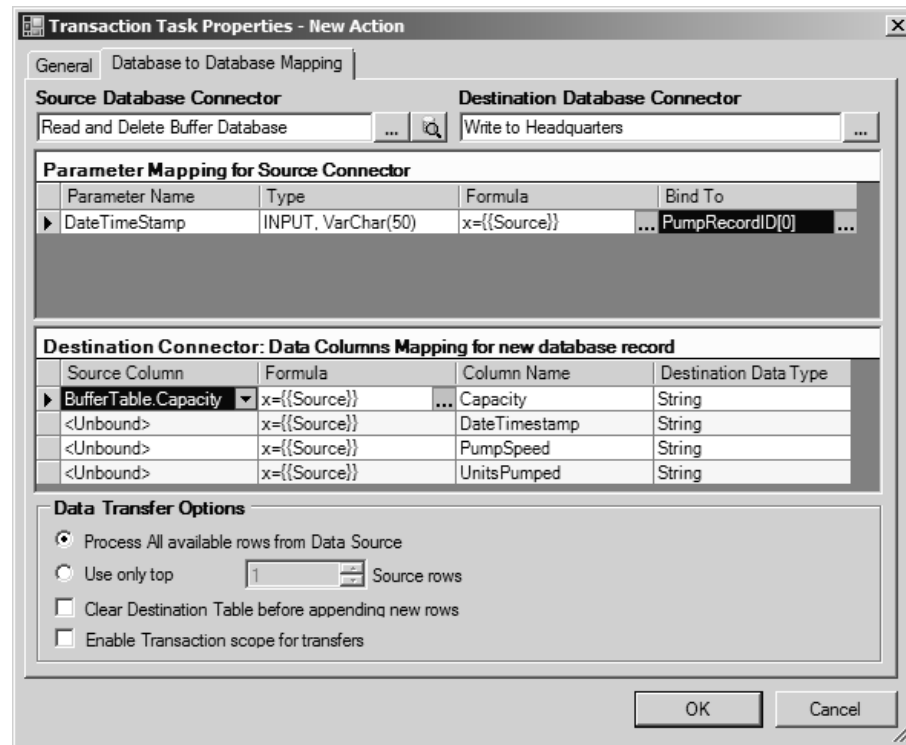

Figure L5.6 - Database to Database Mapping with parameter
- Click on the **Global Variables** tab and expand the **WaterOne** folder. Double-click on **PumpRecordID[0]**, and click on **Bind Current Selection**. The whole display will look like Figure L5.6.